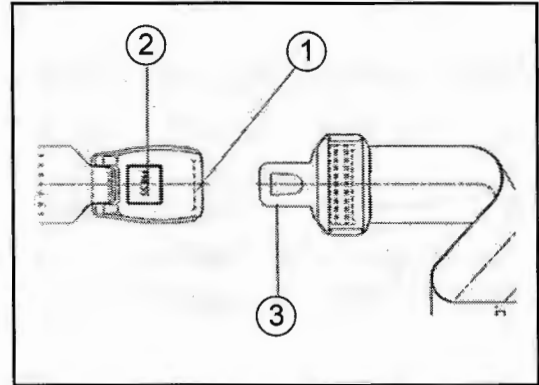

Fig. 19-3 - Seat Belt
To fasten the seat belt, insert tongue (3) into (1). To unfasten the seat belt, press button (2) and pull it out. (See Fig. 19-3).